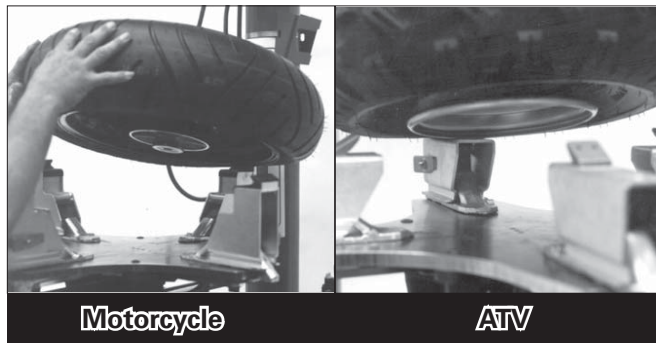

Figure 5 - Place Tire/Wheel Assembly on Table Top
6. Place tire/wheel assembly on table top with mounting side up (Figure 5). Use the clamp control pedal to move the clamps inwards (push pedal down) or outwards (toggle pedal up). Clamp motorcycle and ATV wheels from the outside (clamps push inwards against the outside rim edge). Place rim flange into rear clamp and slowly move the other clamps inward until they contact the rim. Observe closely to prevent tire/wheel damage.